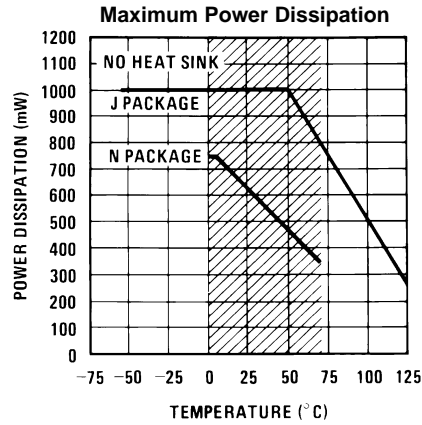

Figure 22.
- (1) "Absolute Maximum Ratings" indicate limits beyond which damage to the device may occur. Operating Ratings indicate conditions for which the device is functional, but do not ensure specific performance limits.
- (2) If Military/Aerospace specified devices are required, please contact the Texas Instruments Sales Office/ Distributors for availability and specifications.
- (3) See Figure 22.